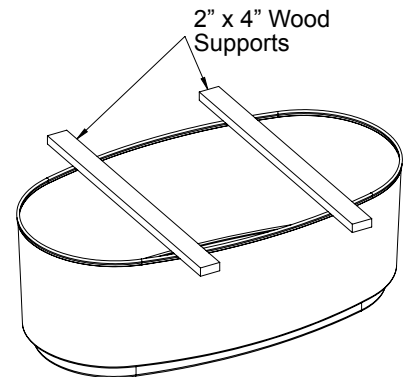

Figure 7
- 3 Place (2) four foot long 2" x 4" wood supports across the top of the skirt. Position the wood supports evenly over the skirt as illustrated (Fig. 7). They will support the bathtub during the connection of the water supply lines and the electrical connection.